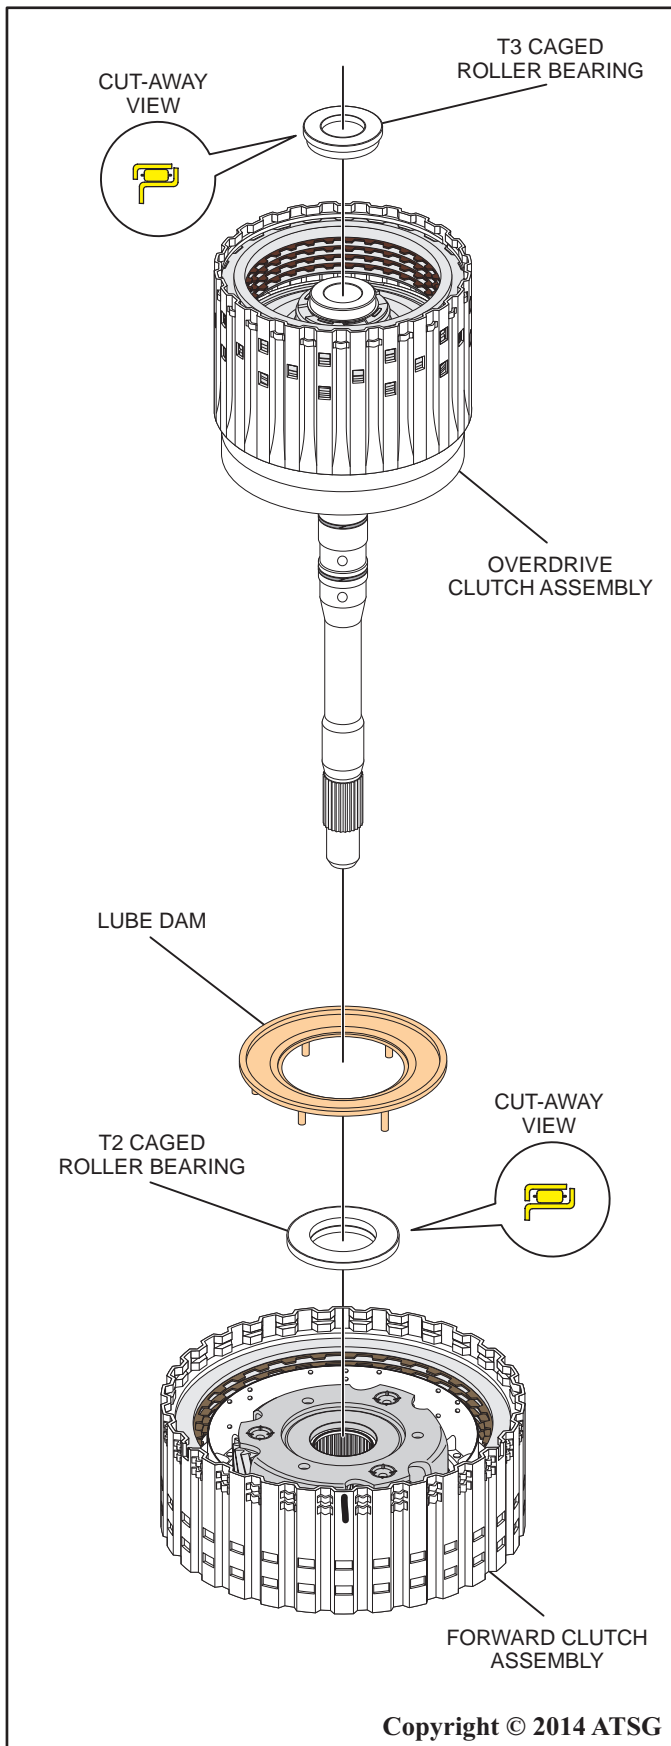

Figure 74
7. Remove the T3 caged roller bearing from the top of the overdrive clutch assembly as shown in Figure 74.
8. Remove the overdrive clutch assembly from the forward clutch assembly and set the drum aside for further disassembly and cleaning as shown in Figure 74.
9. Remove the lube dam from the forward clutch planetary as shown in Figure 74.
10. Remove the T2 caged roller bearing from the forward clutch planetary as shown in Figure 74.